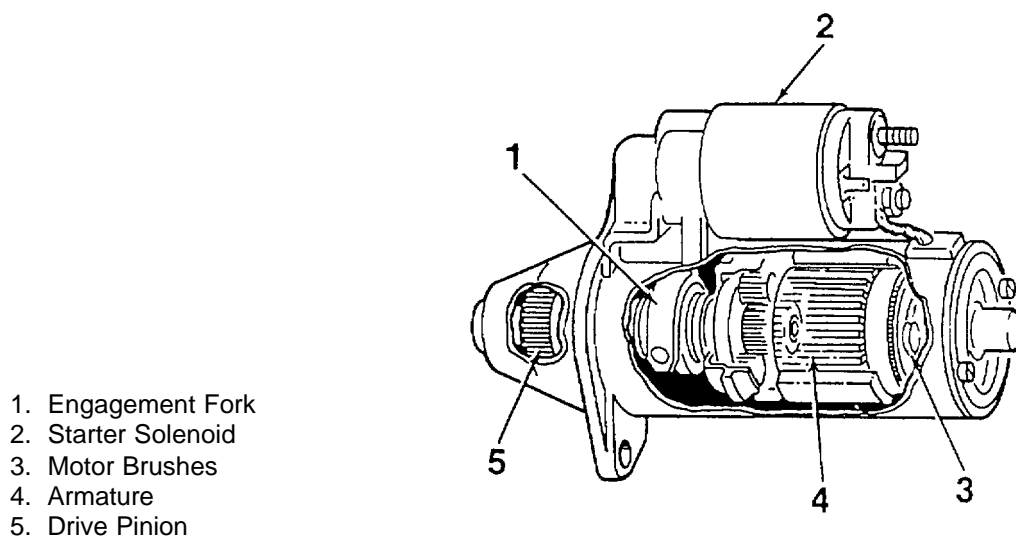

Figure 1-8. Engine Starter Motor
a. Engine start-up is controlled by the engine starter motor (Figure 1-8). When the coil-type starter solenoid (2) is energized, magnetic force pulls the solenoid plunger in. The plunger is connected to a spring loaded engagement fork (1). This engagement fork pushes the drive pinion (5) out to engage the engine flywheel.
b. As the drive pinion (5) is pushed out, the armature (4) contacts the starter motor brushes (3), energizing the starter's field winding. The starter motor will operate until the solenoid (2) is de-energized. Once deenergized, the engagement fork (1) will retract and the drive pinion will disengage from the engine flywheel.